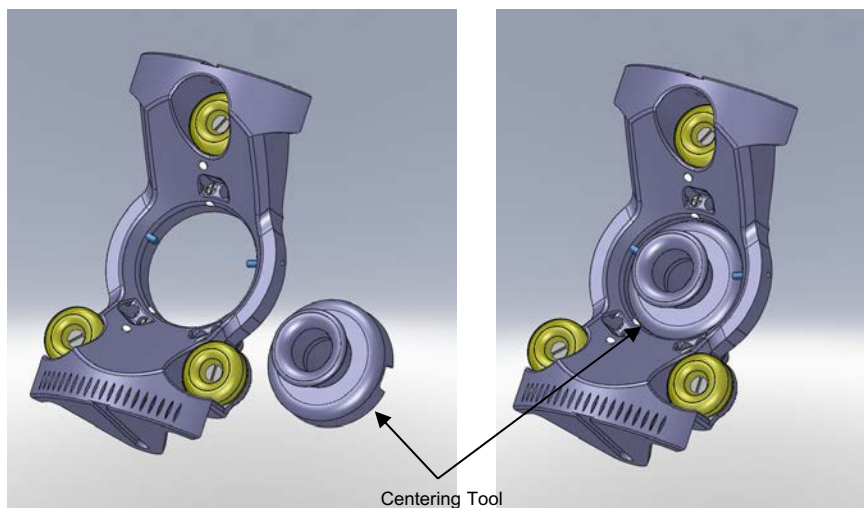

Figure 3: Base Mounting Orientation
2. Position the Base over the Centering Tool or visually center the Base over the burr hole with the single yellow fiducial marker in the up position. **See Figure 3.**
3. Mount the Skull Mount Base with the three (3) pre-mounted self-tapping screws to the skull. A manual screwdriver is supplied in the kit.